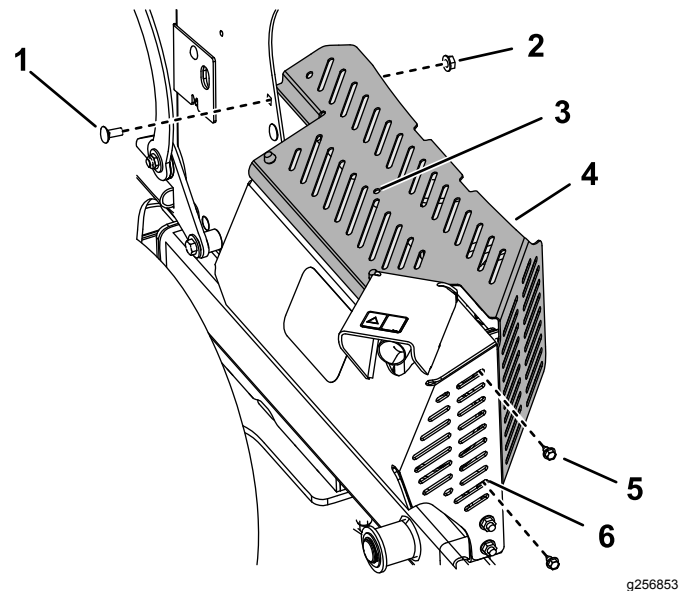

Figure 7
4. **Loosely** install the heat shield over the muffler guard, with the tabs inside the muffler guard and to the inside of the console tower, using the 2 thread-forming bolts (1/4 x 1/2 inch) and the carriage bolt and nut you removed previously (Figure 7).
5. Using the center hole in the heat shield as a template, drill a hole (7/32 inch) into the muffler guard (Figure 7).